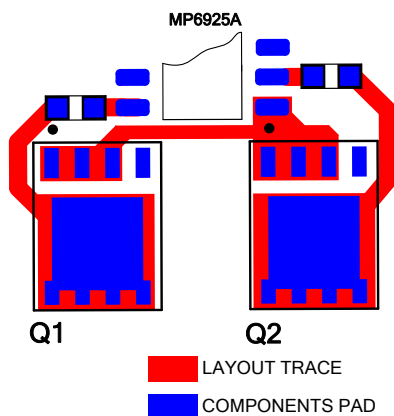

Figure 14: Layout Example for Sensing Loop and  $V_{DD}$  Decoupling
Figure 14 shows a layout example of the MP6925A driving PowerPAK SOIC-8 package MOSFETs with two separate, small, sensing loops.
1. Place a minimum  $1\mu\text{F}$  decoupling capacitor from  $V_{DD}$  to PGND, close to the IC, for adequate filtering (see Figure 14).